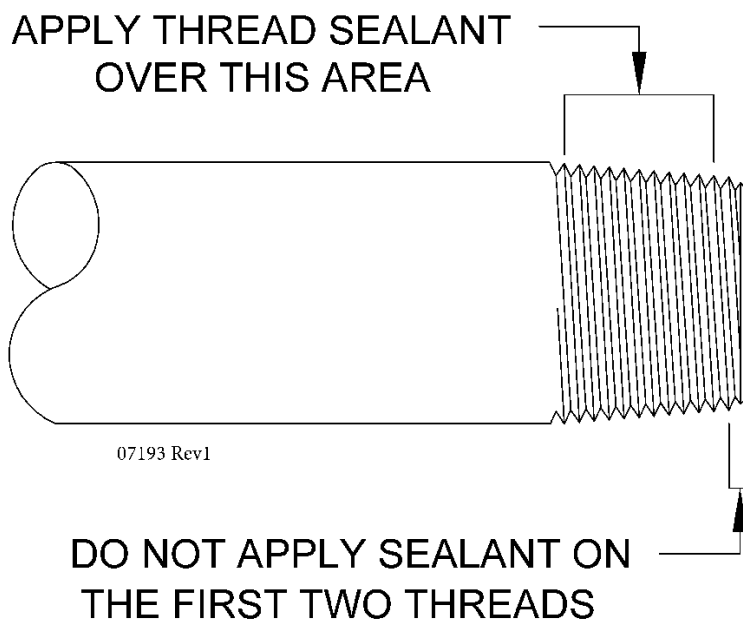

Figure 11 – Applying Thread Sealant
2. Apply thread sealant to the fuel line threads as per Figure 11.